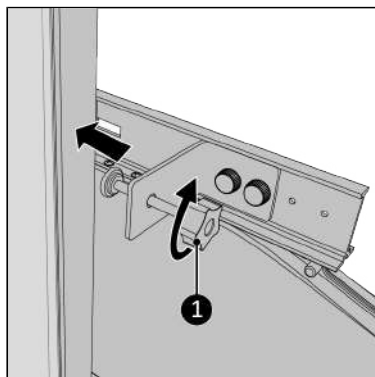

Figure 65.
16. Screw the clamping screw carefully to the window frame (Figure 65, pos. 1).